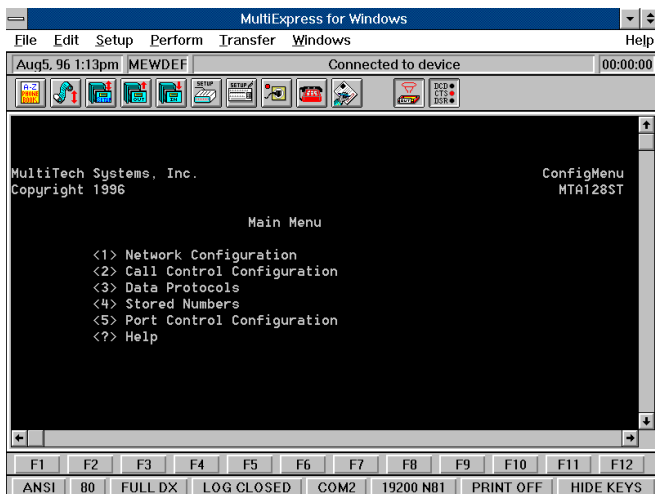

Figure 3-2. ConfigMenu
5. In the communications program's terminal window, type **AT@CONFIG** and press ENTER. ConfigMenu's Main Menu appears in the terminal window (see Figure 3-2).